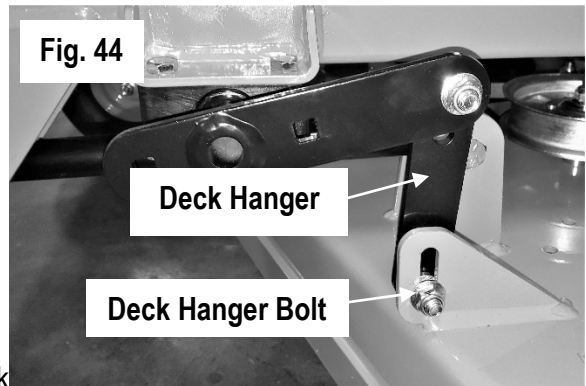

Fig. 44
4. Using a pair of 9/16" wrenches, loosen all deck hanger bolts on the top of the deck. These are the lower bolts in the slots of the deck as shown in Fig. 44. Do not loosen the upper bolts that attach the deck hangers to the actuator lift bars.